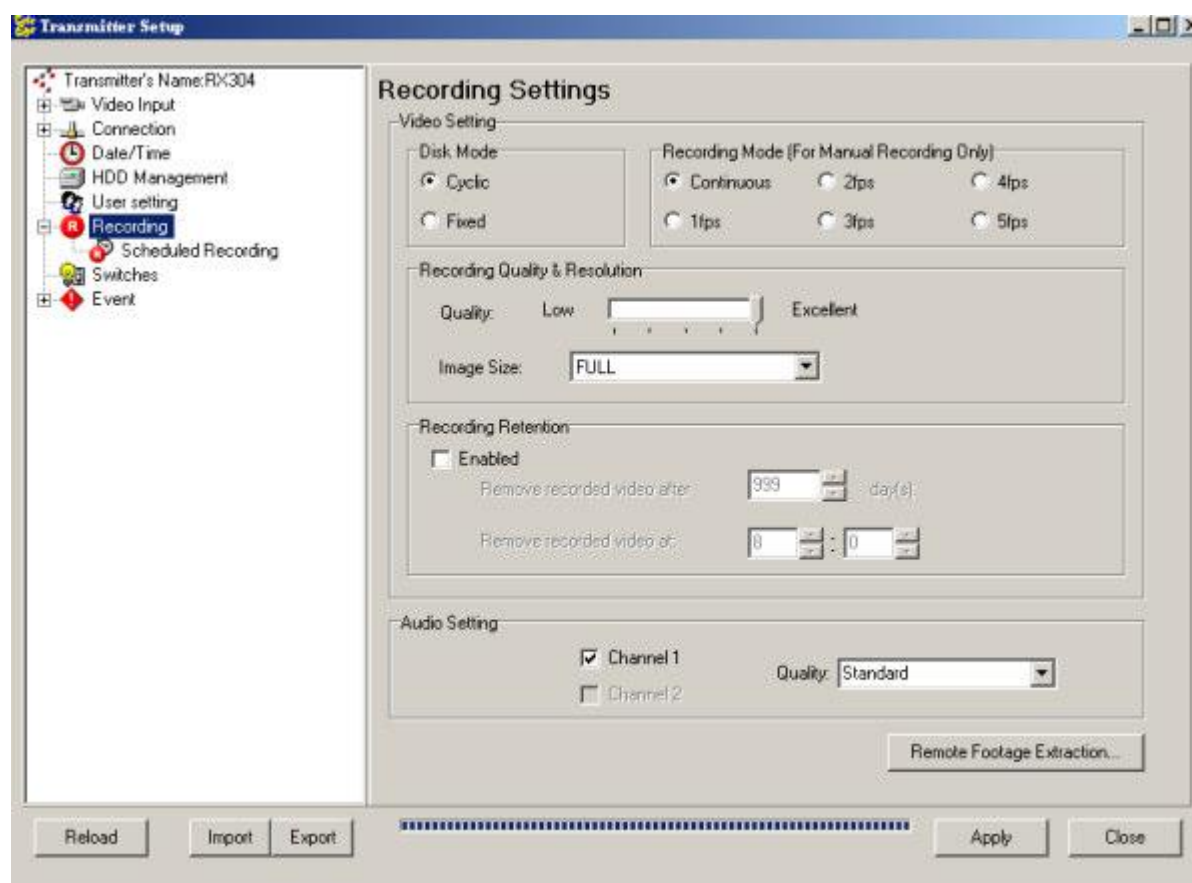

Fig 6.1a
Step 1 : Click [Transmitter Settings]  icon on the {Main Panel}. Enter the administrator password to pop up {Transmitter Setup} panel. Click [Recording] option as shown on **Fig 6.1a**.
Step 1: Click on **[Footage Extraction]** button (Fig 6.1a)